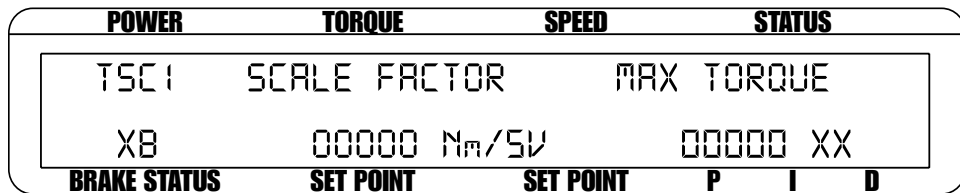

Figure 3–21 TSC1 Eddy-Current/Powder Brake Setup Menu
- 6.a. If using an Eddy Current Dynamometer, press SHIFT 2 times. The display should appear as shown in Figure 3–19 Nominal Speed Setup Menu. Press the AUX SETUP button and use UP ◀ and DOWN ▶ buttons and Decrease/Increase dial to set desired nominal speed. Press SHIFT 4 times to complete the initial setup and return to the main menu.